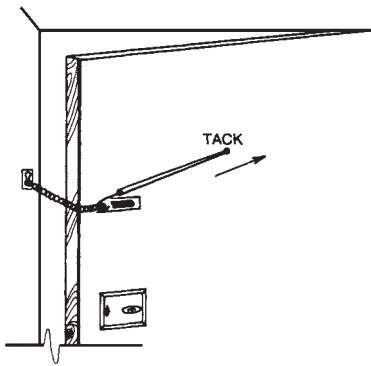

Figure 17.7 The rubber band technique is usually the easiest way to unlock most chain locks.
1. Reach inside and stick a tack in the door behind the chain assembly (Fig. 17.7).